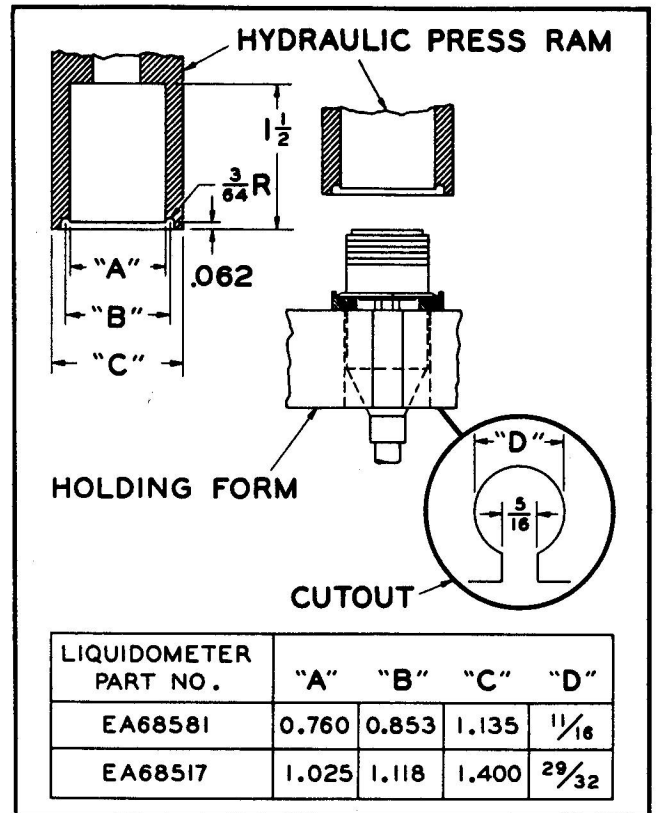

Figure 2-5C. Attaching Receptacle to Conduit Assembly
- Place receptacle and conduit assembly in a holding fixture similar to that shown in figure 2-5C. Install a fixture similar to that shown in figure 2-5C in a hydraulic press, properly position holding form and swage receptacle into coupling shell using a pressure of $1\frac{3}{4}$ tons.